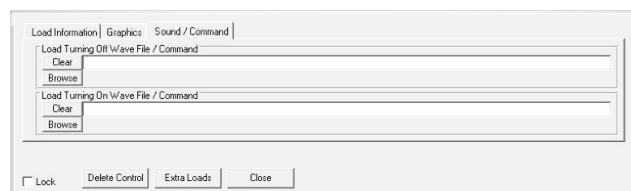

Figure 2.6
- **Sound**- you can define a particular WAV audio file to play when the load it represents goes On and another sound when the load goes Off as shown in figure 2.6.
3. Name the InSite preset in the window provided as shown in figure 2.6